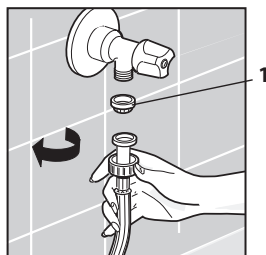
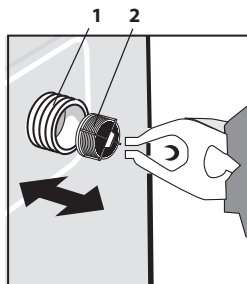

Figure 20
Figure 21
Filter 1 between the filling hose and the tap (Fig. 20) and filter 2 in the threaded branch pipe of the electric valve 1 (Fig. 21) are intended to stop mechanical impurities (sand, metal chips, etc.) from getting into the Machine together with water. It is recommended to clean up the filters at least once a year.
- disconnect the filling hose from the water supply tap (Fig. 20);
- manually extract filter 1 (Fig. 20) out of the filling hose;
- disconnect the filling hose from the threaded branch pipe of the electric valve of the Machine 1 (Fig. 21);
- remove filter 2 out of the threaded branch pipe of the electric valve with the help of a pair of pincers or pliers (Fig. 21);